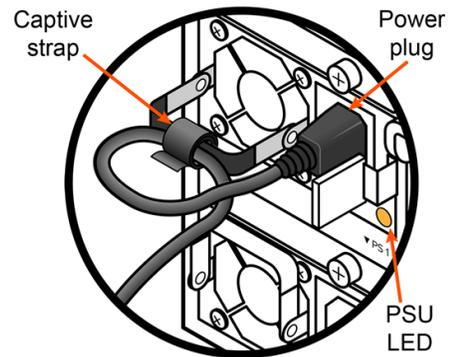

Figure 1-4. Removing the Power Plug
1. Unwrap the captive strap. See Figure 1-4.